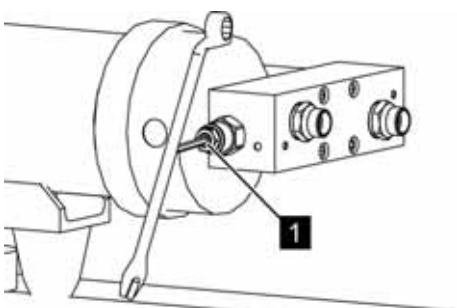

Fig. 104: Emergency drain
5. ➤ Loosen the Allen head screw (Fig. 104/1) slowly. While doing this, observe the movement of the lift arm.